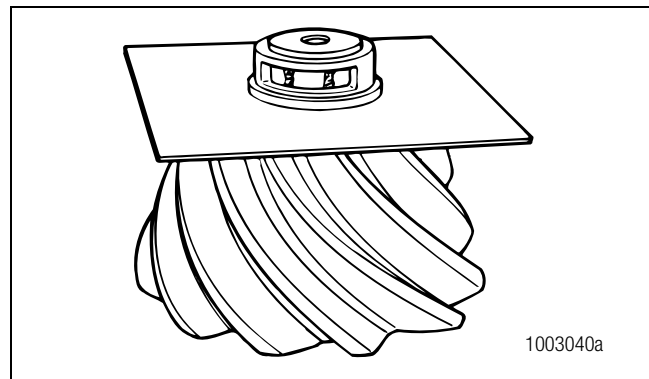

Figure 5.9
- Place the heat shield over the pinion stem so that you can see the temperature indicating liquid through the hole in the shield. Figure 5.9.